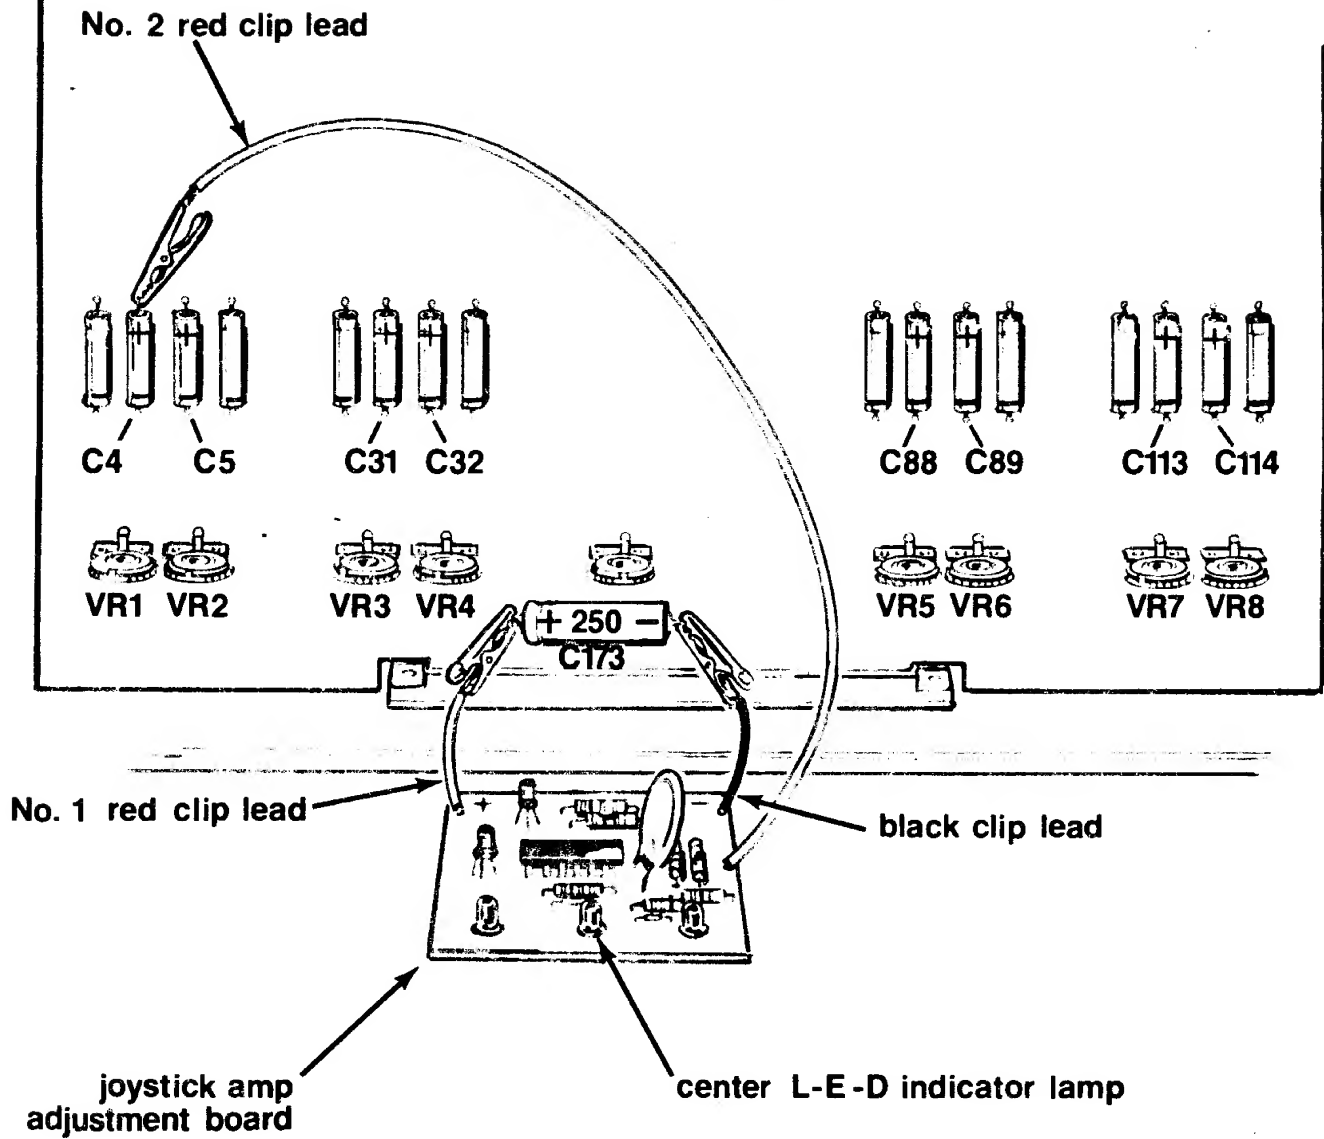

Figure 10 Joystick Amplifier Adjustment
Joystick Amplifier Adjustment - Refer to Figure 10 for the following. The "Joystick" Amplifier Adjustment is factory set and normally require readjustment only when the the EG1000-A Analog Board is changed, or if any of the "Joysticks" are replaced. There are two controls for each car. The controls adjust the voltage at the output of the "Joystick" Amplifiers. The purpose of the adjustment is to minimize drift of each car in the vertical and horizontal direction when the "Joystick" is in the upright "rest" position, and to standardize the speed of the cars. The adjustment is relatively simple, when using the "Joystick" Amp Adjustment Board, which is available from your distributor.
- 3) Observing correct polarity, connect the Black and #1 Red clip leads to C173, 250 mfd capacitor as shown in Figure 10. All adjustments will be made with these leads connected.
- 4) Connect the #2 Red clip lead to the Positive (top) side of C4 (1 mfd capacitor). (See Figure 10.) Adjust VR-1 until the center LED indicator is illuminated.